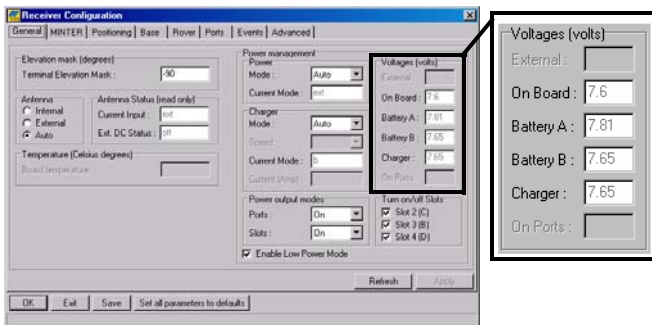

Figure 3-5. View Voltages Information
7. View the Voltages information (Figure 3-5).